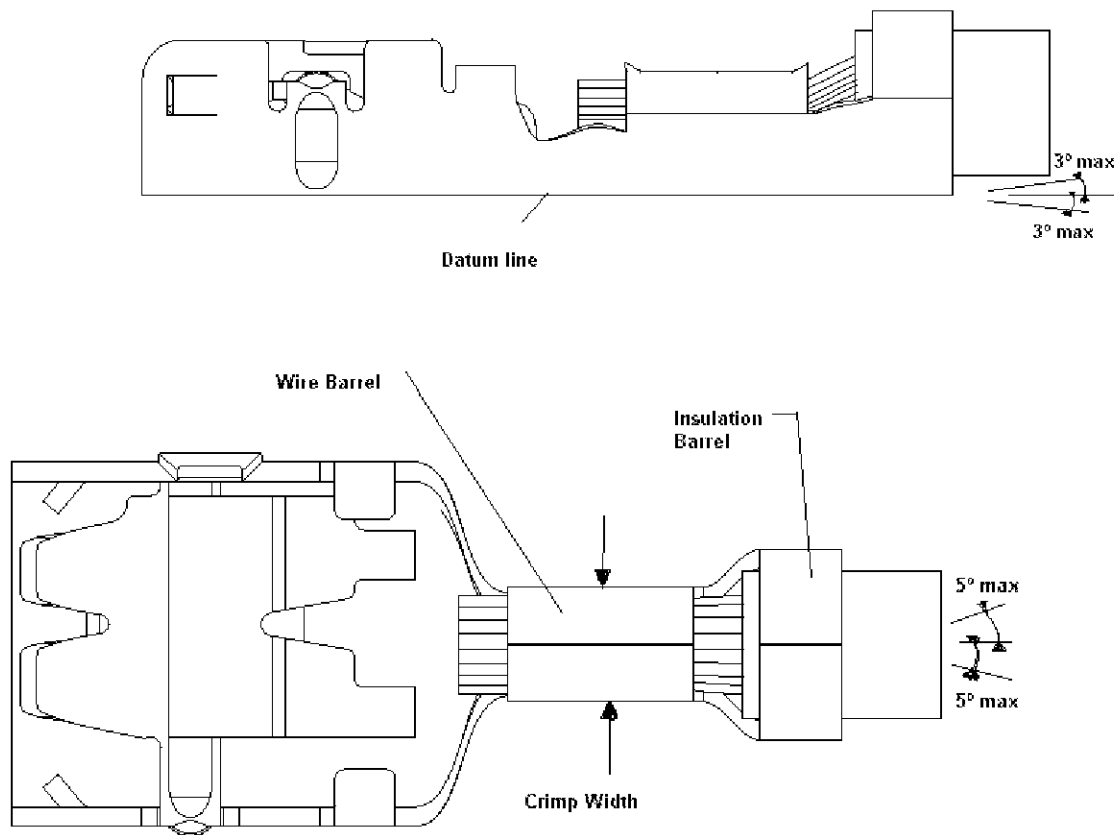

Fig. 3
- The side to side bending of the contact shall not exceed the limits specified in figure 3